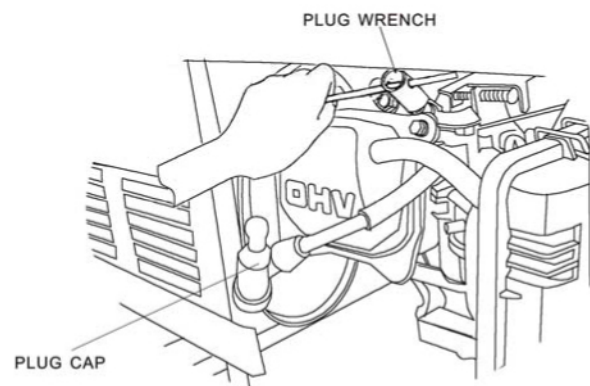

Figure 16 - Locating the Spark Plug
Please contact Customer Service if you have questions regarding the spark plug. (Figure 16)
- Disconnect the spark plug. (See Figure 16, locating the spark plug.)